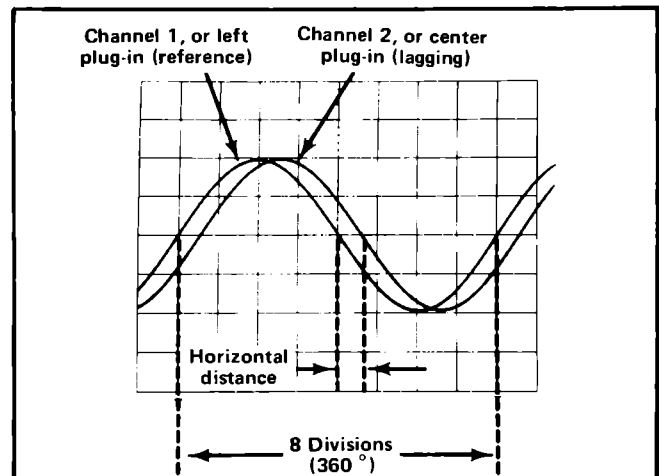
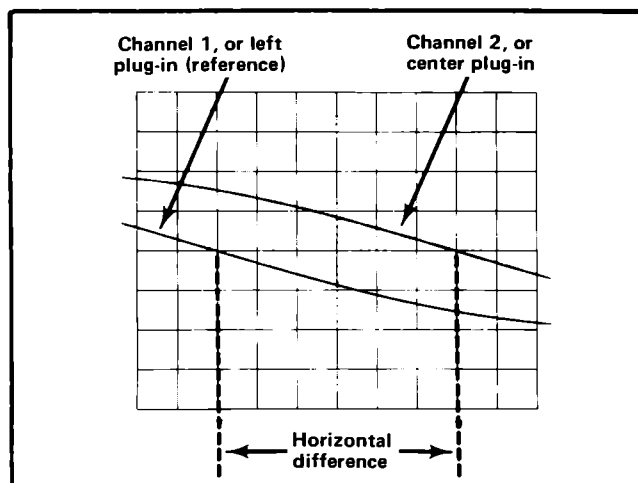

Fig. 2-11. Measuring phase difference.
Fig. 2-12. High-resolution phase difference measurement with increased sweep rate.
9. Turn the variable Sec/Div control until one cycle of the reference signal (channel 1, or left plug-in) occupies exactly eight divisions between the second and tenth vertical lines of the graticule (see Fig. 2-11). Each division of the graticule represents 45° of the cycle ($360^\circ \div 8 \text{ div} = 45^\circ/\text{division}$). The sweep rate can be stated in terms of degrees as 45°/div.
EXAMPLE: Assume a horizontal difference of 0.6 div with a sweep rate of 45°/div as shown in Fig. 2-11. Use the following formula.
EXAMPLE: If the sweep rate were increased 10 times with the magnifier, the magnifier sweep rate should be $45^\circ/\text{div} \div 10 = 4.5^\circ/\text{div}$. Figure 2-12 shows the same signals as used in Fig. 2-11 but with the Swp Mag button pushed in. With a horizontal difference of six divisions the phase difference is: